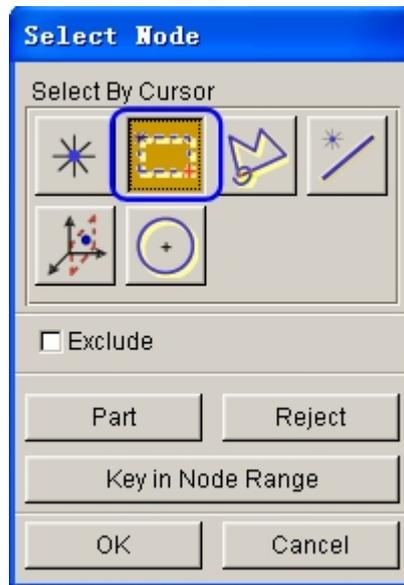

Figure 5.38 Select node dialog box
1. Click **Weld...** button to display the SELECT NODE dialog box illustrated in Figure 5.38.
2. Next, using the **Drag window** option to select the boundary nodes between two blanks, as illustrated in Figure 5.38.